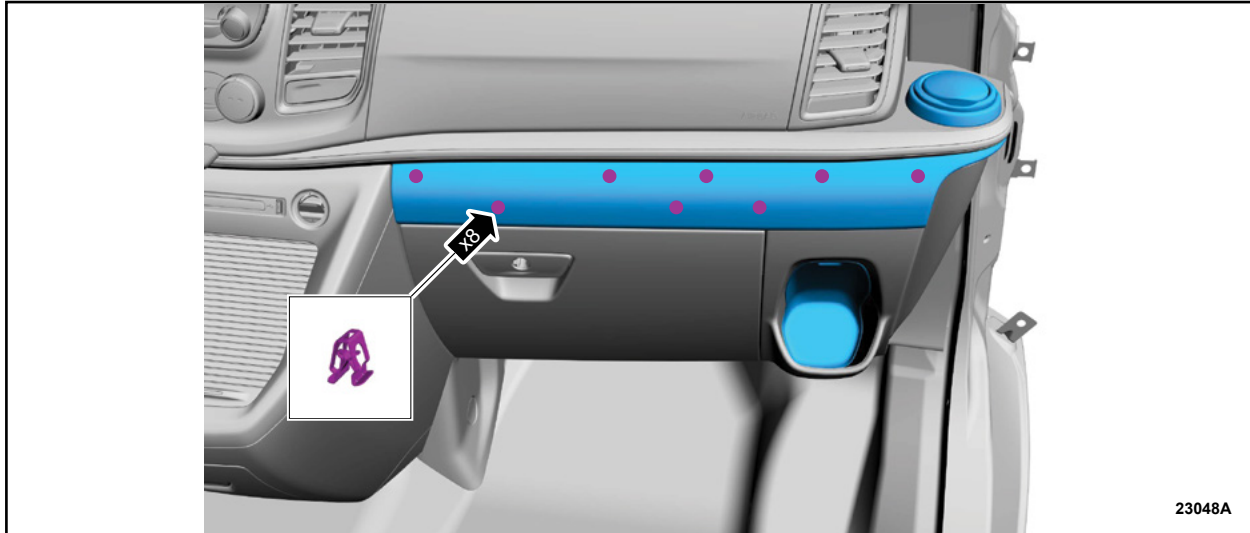

FIGURE 21
23. Release the clips and remove the finish panel and the cup holder. See Figure 21.